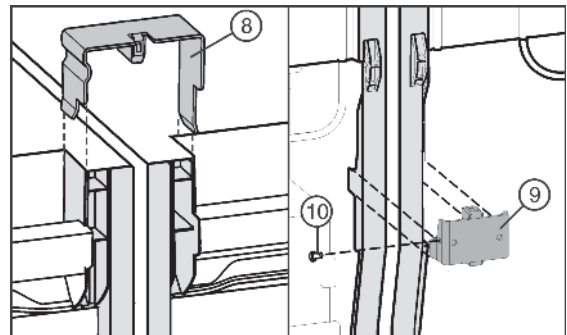

Fig. 25
- ▶ Place the connecting clamps Fig. 25 (8) at the top of the centre side walls.
- ▶ Insert the connecting angle Fig. 25 (9) underneath into the corresponding space.
- ▶ If the connecting angle is somewhat loose, fit a screw Fig. 25 (10).